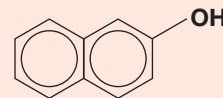

Figure 4.16 ▲
- 14 a)** Write an equation for the coupling reaction between benzenediazonium chloride and naphthalen-2-ol (Figure 4.16) to form an azo dye.